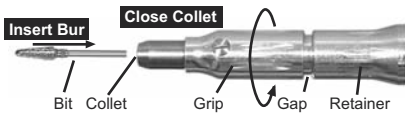

Figure 3
3. Close collet by turning grip 1/4 turn as shown in *Fig. 3*.